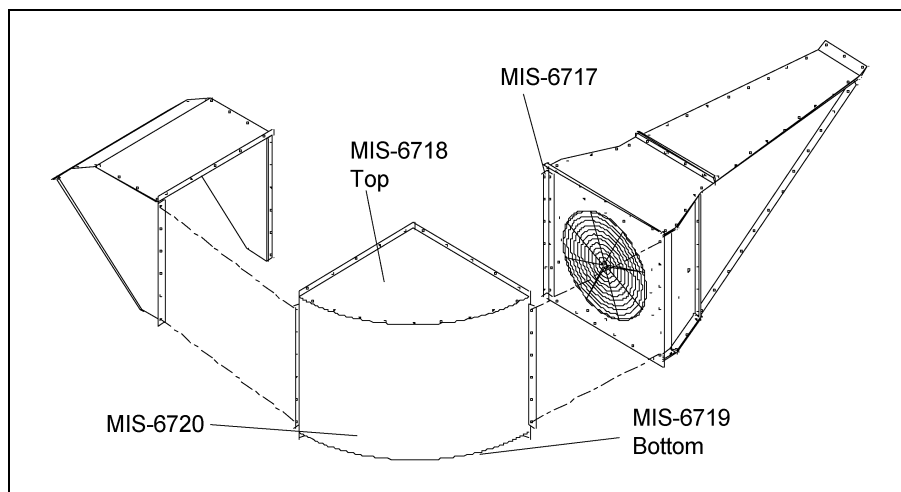

Figure 5I The 24" Roof Fan Exhauster with Optional 90° Deflector.
13. Bolt deflector assembly to MIS6674 sub-assembly for noise deflection. (*See Figure 5I*).